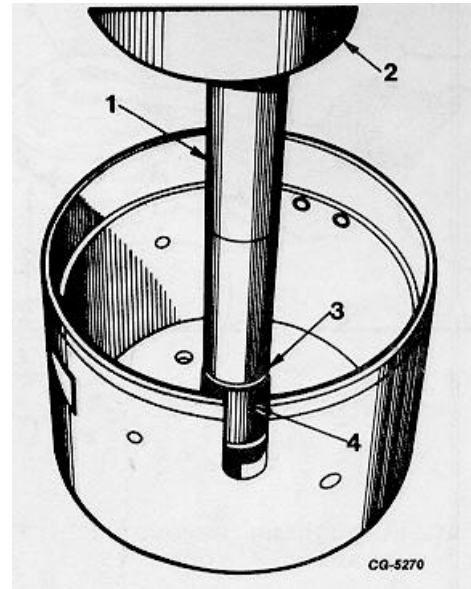

Fig. 29. Installing Upper Bushing using Bushing Installer SE-1955-7.
On distributors without tachometer drive, groove in outside diameter of bushing must be positioned at the top (Figure 29).
- Position distributor housing in press. Insert bushing installer (SE-1955-7) into bushing (Figure 29).